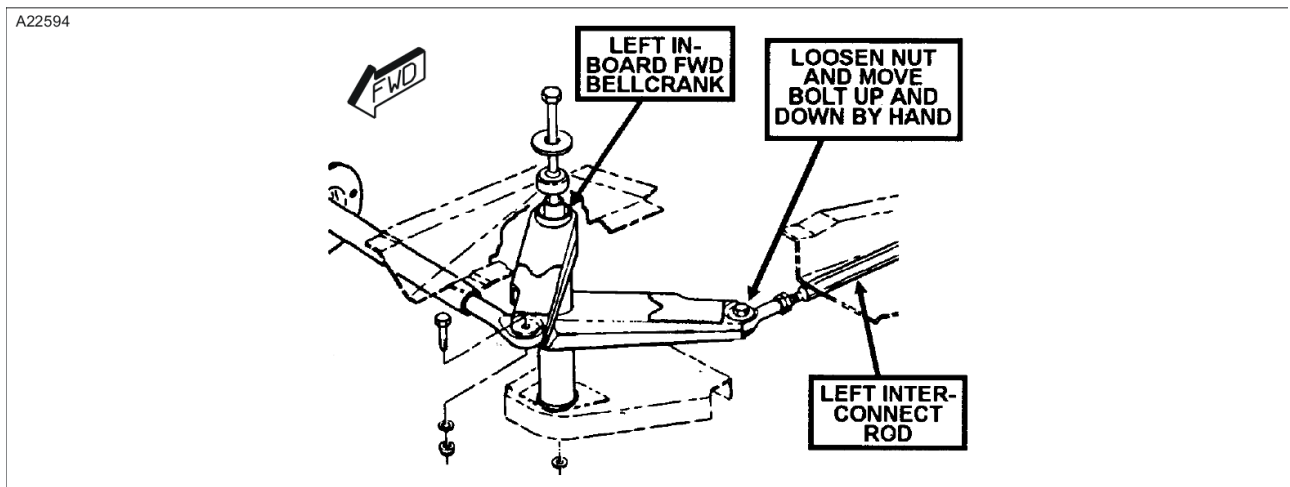

Figure 507
- (2) Loosen nuts on the interconnect rod attach bolts at the inboard forward bellcranks. (Refer to Figure 507 shows left, right typical). Bolts must move up and down by hand, indicating no preload. Retorque after check.